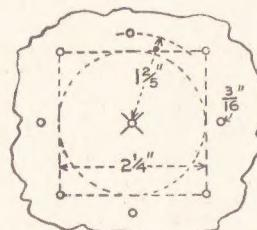

Fig. 2—The cardboard jig
The next thing to make is a jig of strong thin cardboard (see Fig. 2). Obtain a tin over 3ins. high and not less than $3\frac{1}{2}$ ins. in diameter. Cut the rim down to 3ins. from the bottom of the tin. Find the centre of the base and puncture it with a fine nail. Put the mark (X) of the jig over the mark of the tin, plot the positions, cut out the square and drill the holes.